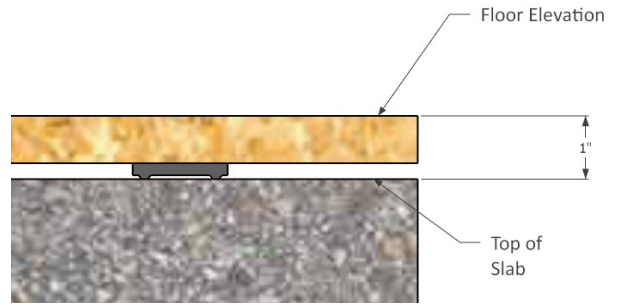

Figure 4: Dimensional Coordination
- Fig. 4: Dimensional coordination places Top of Concrete (TOC) 1-inch below Floor Elevation.